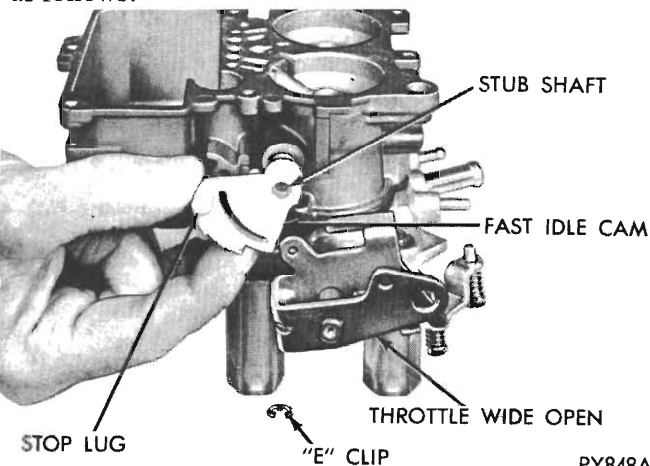

Fig. 15 – Removing or installing fast idle cam
(20) Invert main body and drop out accelerator pump discharge check needle from discharge passage.
(21) Remove fast idle cam retaining "E" clip, then slide fast idle cam off stub shaft (Fig. 15).
(22) Invert main body and remove throttle body to main body attaching screws. Separate bodies and discard gasket.
(23) Turn idle limiter caps to stop. (Top on throttle side and bottom of stop on choke side.) Remove idle limiter caps by prying off with suitable tool. (Be careful not to bend screws.) Be sure and count number of turns to seat the screws, as the same number of turns (from the seat) must be maintained at installation. Remove screws and springs from throttle body.
(8) Install fast idle cam on air horn stub shaft, with steps toward fast idle adjusting screw. Install "E" clip to secure (Fig. 15).